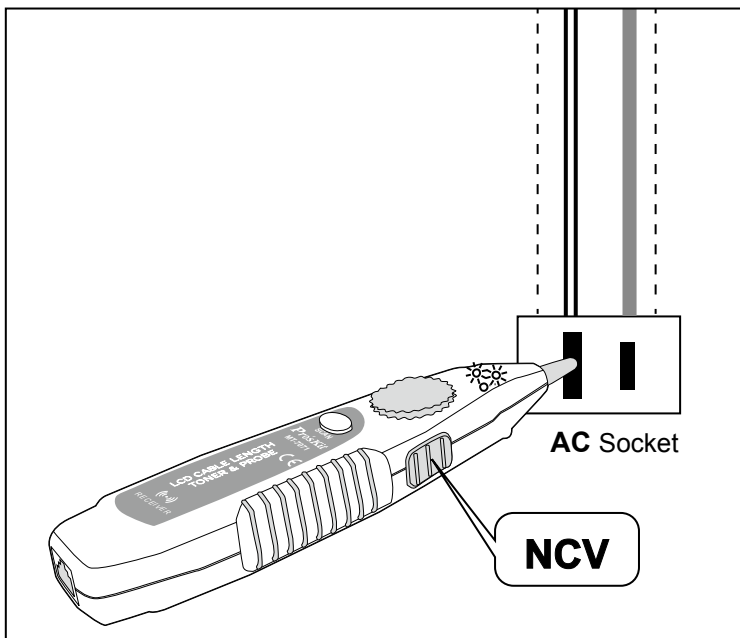

Figure 12 Non-Contact Voltage Testing
1. Per Figure 12, turn the switch to “NCV”, the function is started when the power indication is on.